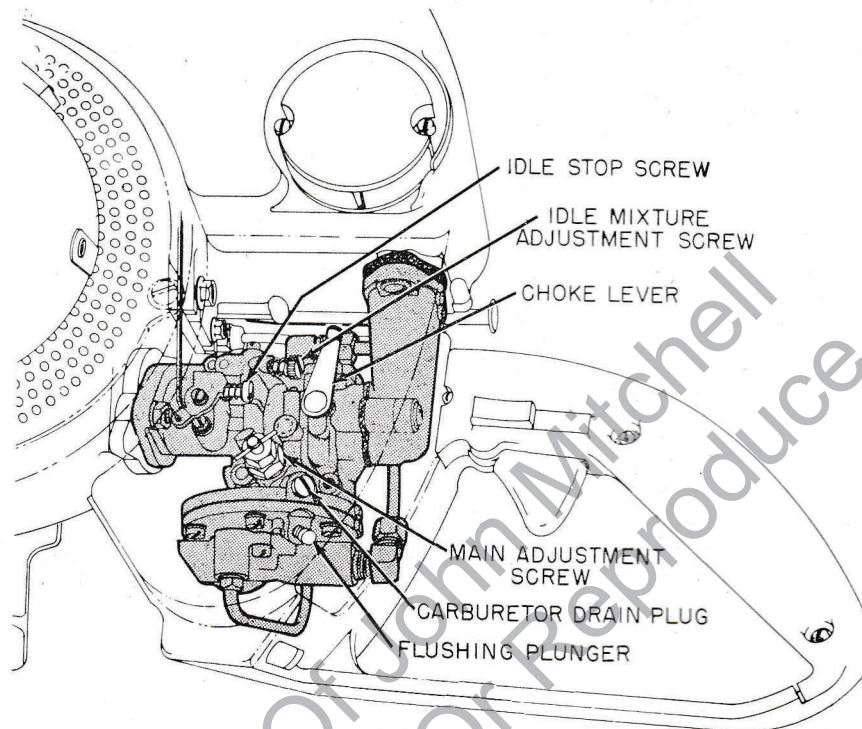

Figure 13—Carburetor Controls
- (1) Idle Mixture Adjustment is controlled by the idle mixture adjustment screw. (See figure 13.) Normal setting is approximately  $\frac{1}{2}$  to  $\frac{3}{4}$  of a turn (counterclockwise) open from the closed position.
- (2) Idle Speed Adjustment is controlled by the idle speed adjustment screw. (See figure 13.) Normal setting approximately  $\frac{3}{4}$  turn (clockwise) after screw hits stop pin.
- (3) Main (or high) Speed Adjustment is controlled by the main adjustment screw (see figure 13) with a T-handle. Normal setting is  $\frac{1}{2}$  to  $\frac{3}{4}$  turn (counterclockwise) open from the closed position.
(4) To set the carburetor adjustments use the following procedure: Set all adjustments to agree with the above positions. Start engine and let it warm up. Release throttle lock so that engine is idling and then set the idle mixture adjustment screw so engine idles smoothly. Set the idle speed adjustment screw so the chain does not rotate. Try to accelerate. If the engine falters, open (turn counterclockwise) idle mixture adjustment screw slightly until the engine accelerates properly. To set the main adjustment screw, start saw in a cut. Pull on pistol grip sufficiently to stall or jam the chain in the cut (the automatic clutch is now slipping). With the chain stalled and the trigger fully depressed (throttle wide open) adjust the T-handled main adjustment screw so the engine neither slows down nor smokes excessively but runs at the highest speed obtainable. Stall chain only long enough to get the carburetor adjusted properly.
(6) Flooding of the carburetor is often caused by dirt which prevents the inlet needle from seating properly. To clean carburetor, proceed as follows. Remove spark plug [see paragraph 4f (2)] to relieve engine compression. With fuel shut-off valve open and toggle switch "OFF", remove drain plug on left side of carburetor. Depress the flushing plunger (see figure 13) and crank engine. Fuel should flow from the carburetor drain hole when flushing plunger is depressed, and stop flowing when plunger is released. If fuel does not stop flowing, repeat operation. When fuel stops flowing after plunger button is